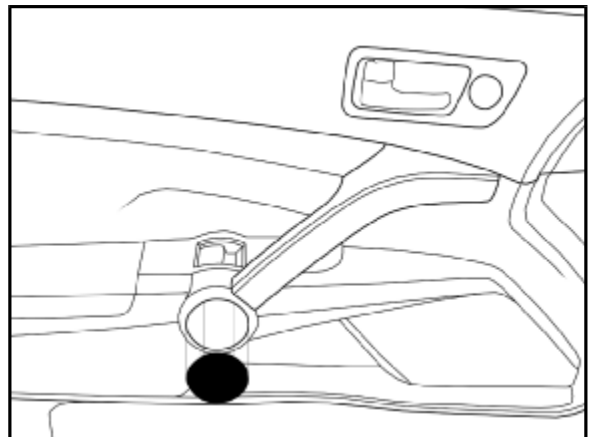

Fig. N1
- ⚠ A. Align part uniformly to edge of factory components. Edge of appliqué should be flush to edge of factory component, ±1.0mm. (Fig. N1).